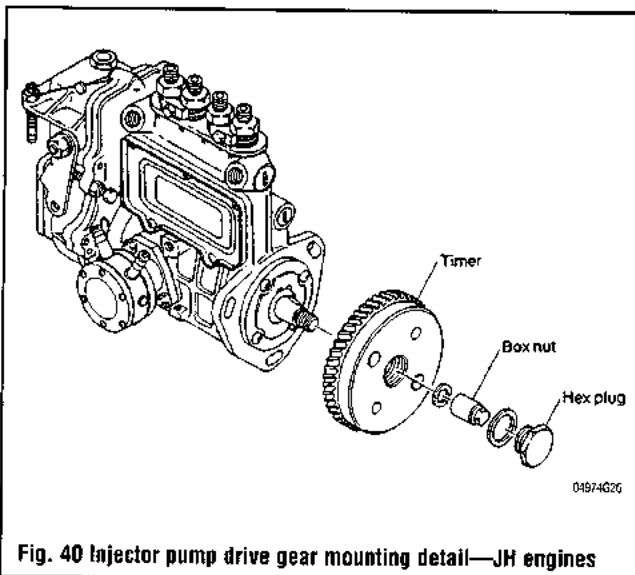

Fig. 40 Injector pump drive gear mounting detail—JH engines
▶ See Figures 40, 41, 42, 43 and 44